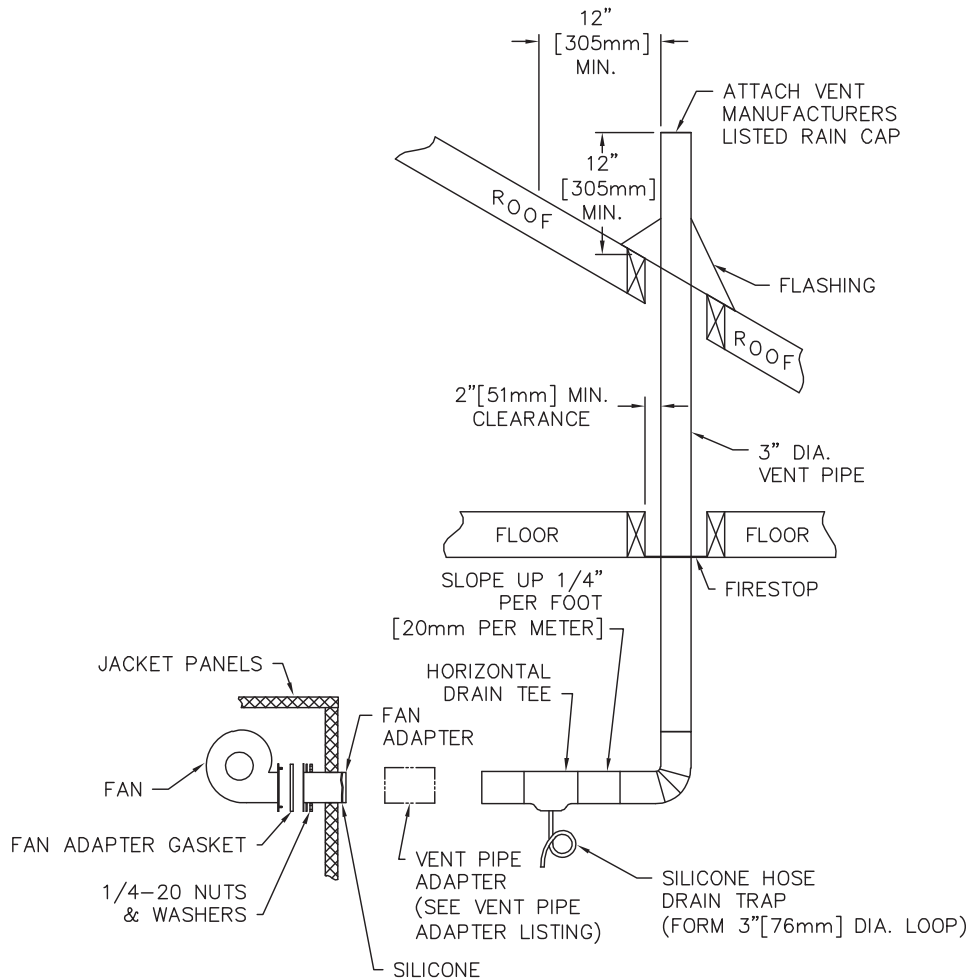

Figure 4.5: Direct Exhaust Vertical Venting
4. Follow instructions under section C. DIRECT EXHAUST; HORIZONTAL VENTING items 6b through 6h.
9. See Figure 4.5 for details.